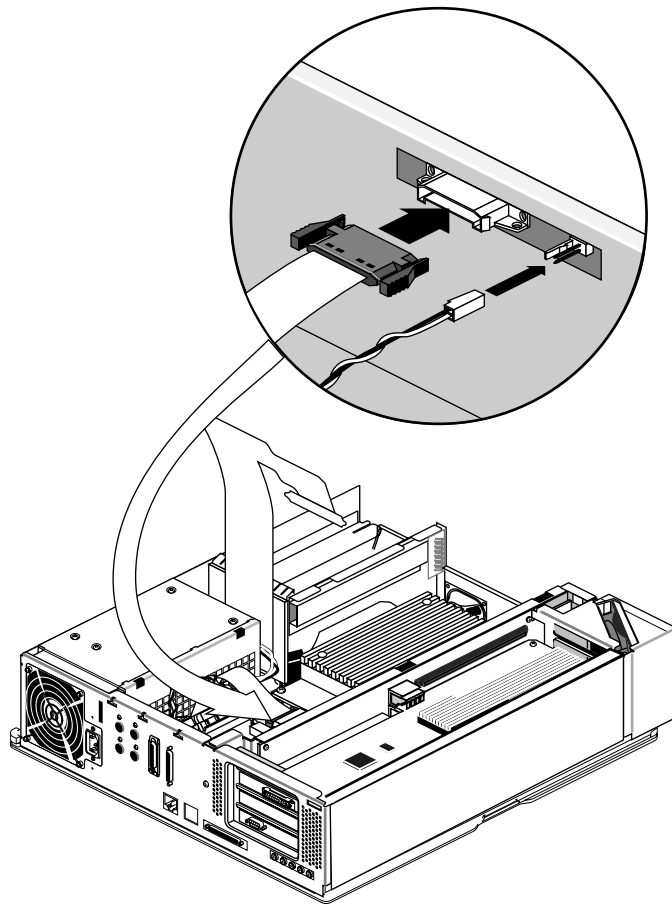

Figure 3-26 Connecting the Midplane Power Cables
- Pinch together the corrugated edges on the ribbon cable connector, and connect it to the midplane. See Figure 3-26.